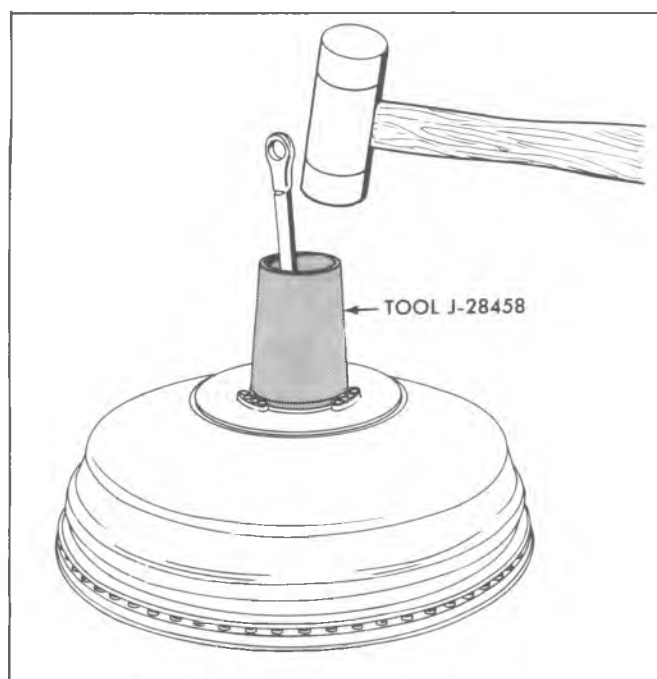

Fig. 5-9A--Installing Diaphragm Retainer
25. Place the diaphragm retainer over power piston and onto diaphragm. Place Tool J-28458 over power piston onto diaphragm retainer. Strike with hammer until retainer is locked on neck of power piston (fig. 5-9A).